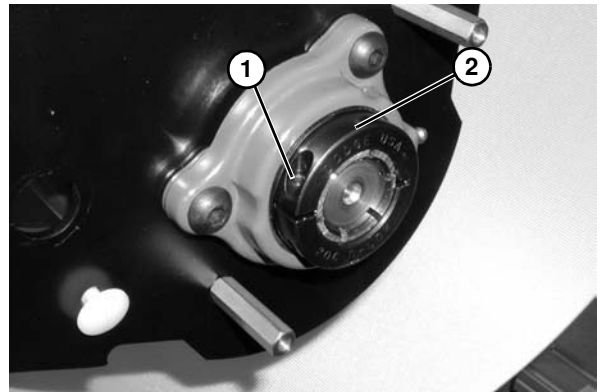

Figure 185
3. Loosen clamp screw (**Figure 185, item 1**) and remove bearing collar (**Figure 185, item 2**).
7. Reinstall bearing collar (Figure 185, item 2). Tighten clamp screw (Figure 185, item 1) to 11 Nm (95 in lbs).